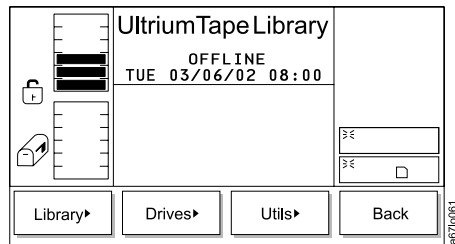

Figure 202. Setup Menu
2. Press the button below the **Setup** softkey. The Setup Menu displays (see Figure 202).